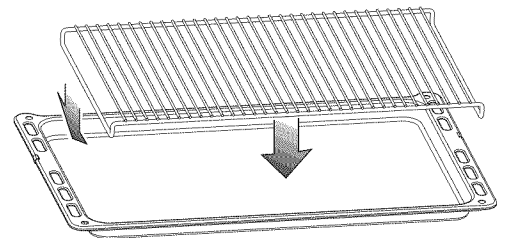

Fig. 3.6
- Introduce the broiling pan in the oven (fig. 3.6).